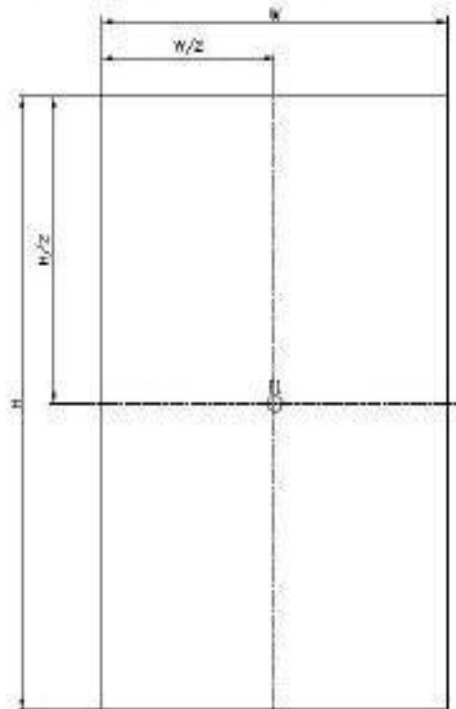

Figure 1. Measurement Set Up
1. Viewing angle is the angle at which the contrast ratio is greater than 10. The viewing angles are determined for the horizontal or 3, 9 o'clock direction and the vertical or 6, 12 o'clock direction with respect to the optical axis which is normal to the LCD surface (see FIGURE 1).
2. Contrast measurements shall be made at viewing angle of $\theta = 0$ and at the center of the LCD surface. Luminance shall be measured with all pixels in the view field set first to white, then to the dark (black) state. (see FIGURE 1) Luminance Contrast Ratio (CR) is defined mathematically.